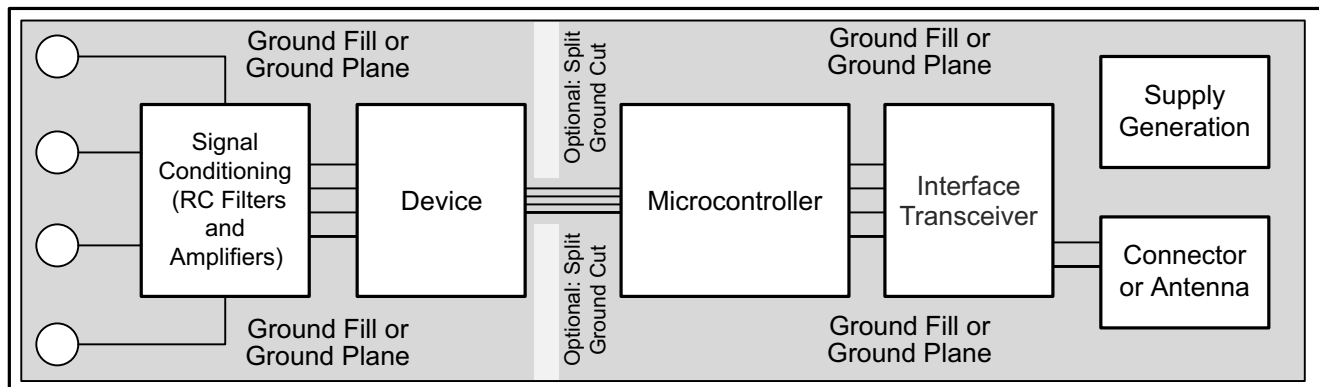

Figure 9-15. System Component Placement
Use best design practices when laying out a printed circuit board (PCB) for both analog and digital components. This practice generally means that the layout separates analog components [such as ADCs, amplifiers, references, digital-to-analog converters (DACs), and analog MUXs] from digital components [such as microcontrollers, complex programmable logic devices (CPLDs), field-programmable gate arrays (FPGAs), radio frequency (RF) transceivers, universal serial bus (USB) transceivers, and switching regulators]. An example of good component placement is shown in Figure 9-15. Although Figure 9-15 provides a good example of component placement, the best placement for each application is unique to the geometries, components, and PCB fabrication capabilities employed. That is, there is no single layout that is perfect for every design and careful consideration must always be used when designing with any analog component.